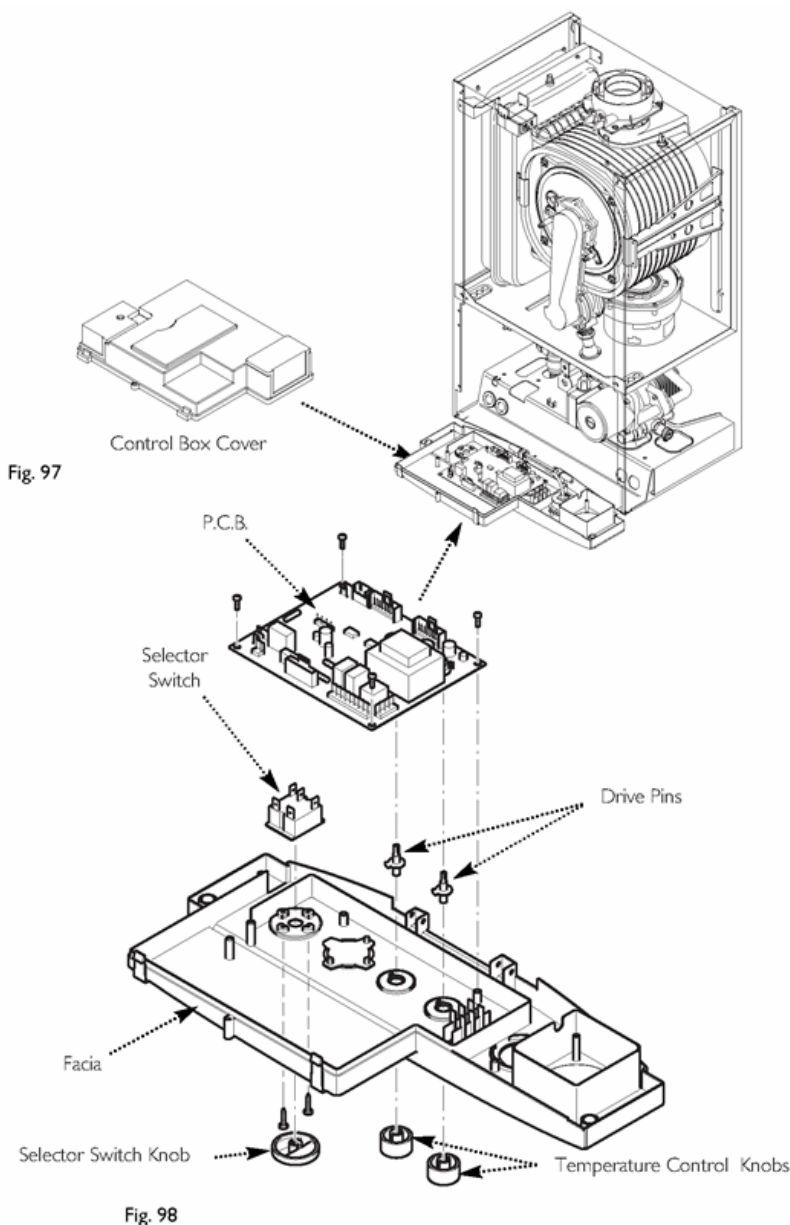

Fig. 97 & Fig. 98
2. Completely undo the screws securing the control box cover and release the cover retaining barbs from their slots. Disengage the rear of the cover from the control box hinge pin (Fig. 97).